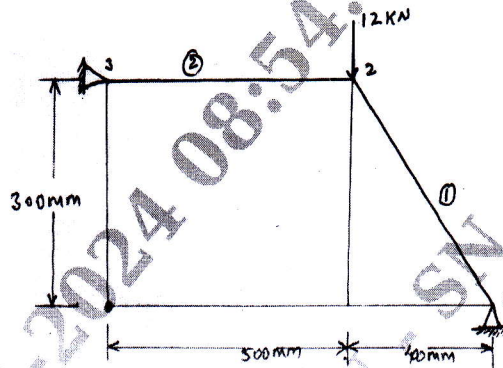

Fig. Q4 (b)
- b. For truss shown in Fig. Q4 (b), determine the nodal displacement and stresses in each element. Given  $E = 2 \times 10^5 \text{ N/mm}^2$ ,  $A_c = 200 \text{ mm}^2$